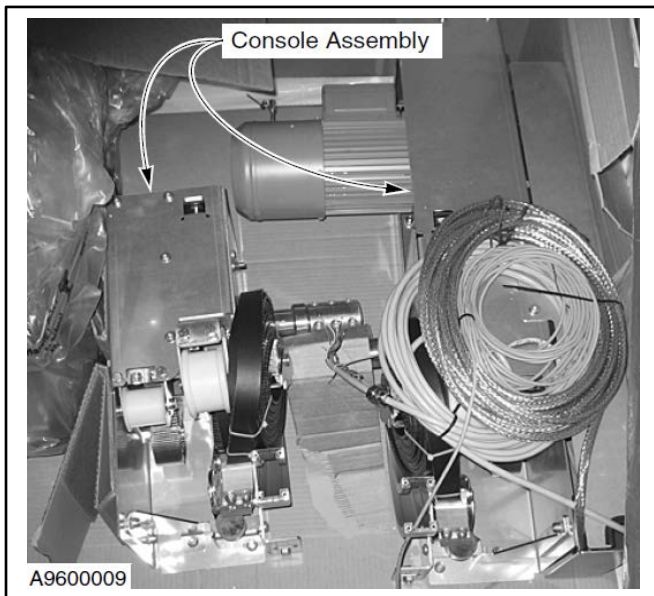

Figure 19
1. Carefully lift and remove the console assembly from the shipping crate. (See Figure 19.)